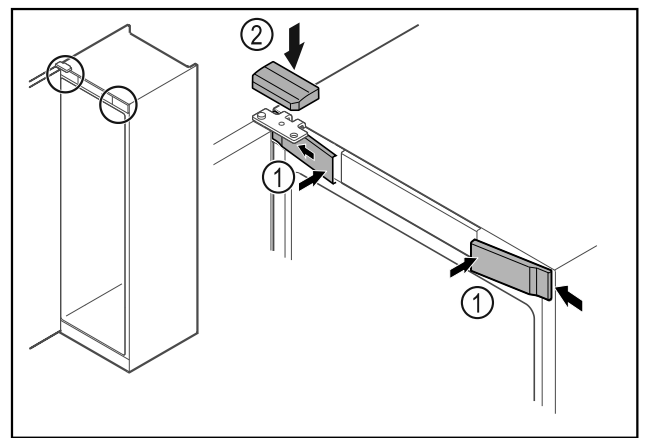

Fig. 51 *
- ▶ Hook in the front covers Fig. 51 (1) on the side and snap them into place.*
- ▶ Snap on the top cover Fig. 51 (2) from above.*